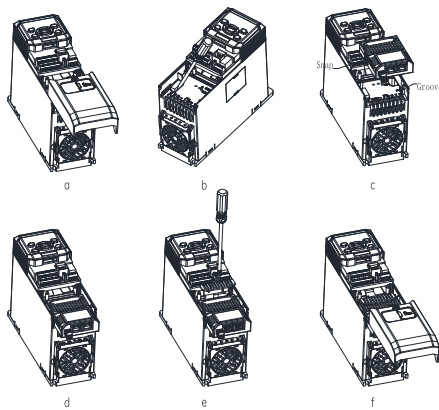

Fig. 4 PN option installation steps
- (1) When the drive is powered off, press the granulated area on the middle-upper part of the lower cover, slide it down with a certain amount of force to remove the lower cover, as shown in Fig. 4-a.
- (2) Use a straight screwdriver to pry open the dust-proof cap or remove the rubber plug, as shown in Fig. 4-b.
- (3) Install the PN option: hold the expansion box (a bus card inside) upwards (indicators up), align the expansion box with the electrical bus interface in the installation position, and press down horizontally to buckle the spring snap of the expansion box into the groove at the lower part of the drive, as shown in Fig. 4-c and Fig. 4-d. Then, use the included retaining plate to secure the option and tighten it with screws (for enclosure B only), as shown in Fig. 4-e.
- (4) The bus option is successfully installed, as shown in Fig. 4-f.